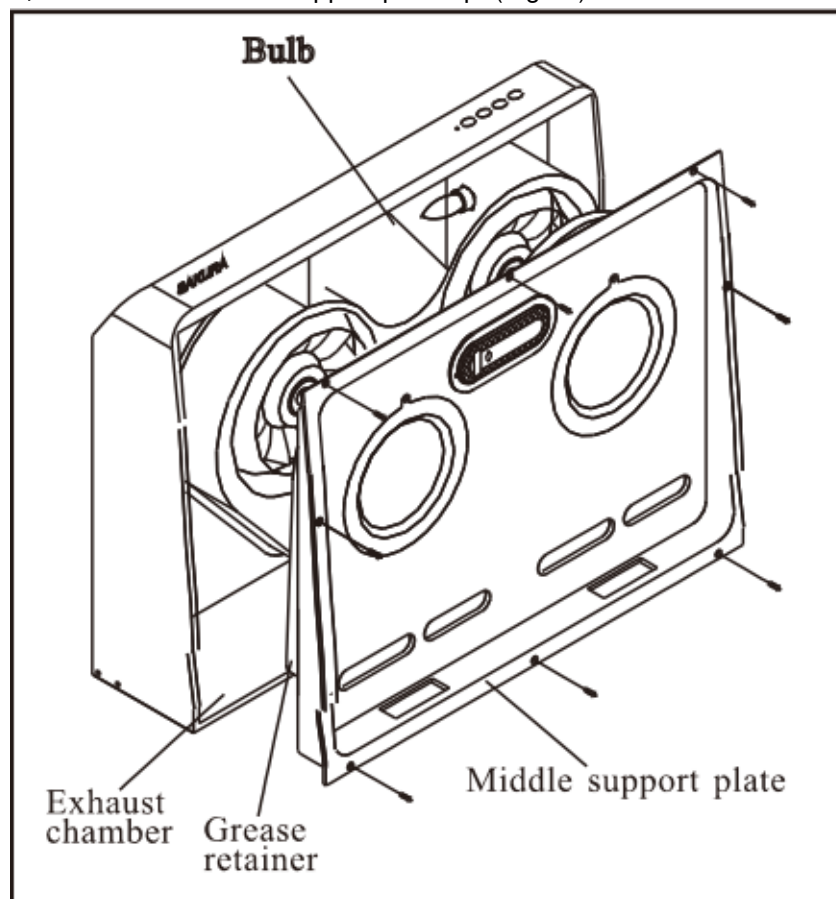

Fig. 10 Remove the middle support plate
7. Loosen the screws on the middle support plate with a philips screwdriver. Remove the middle support plate After wire power supply cord, re-screw the middle support plate up. (Fig.10)